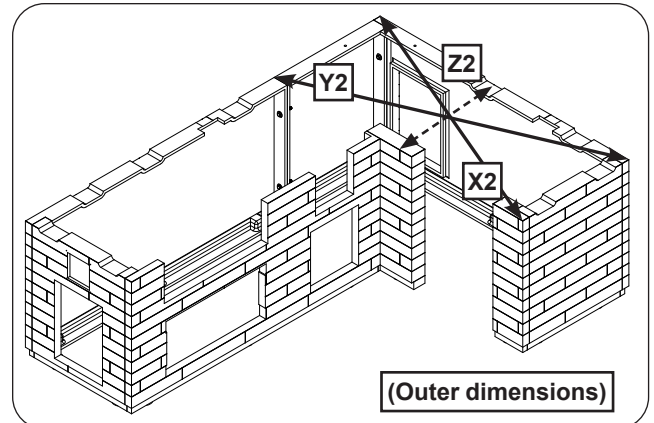

Fig. 14-3 Square unit (then tighten all bolts)
- d. Repeat this process for X2, Y2, and Z2 (see Fig. 14-3). X2 should be approximately $81 \frac{1}{2}$ ". Z2 should be approximately 32".